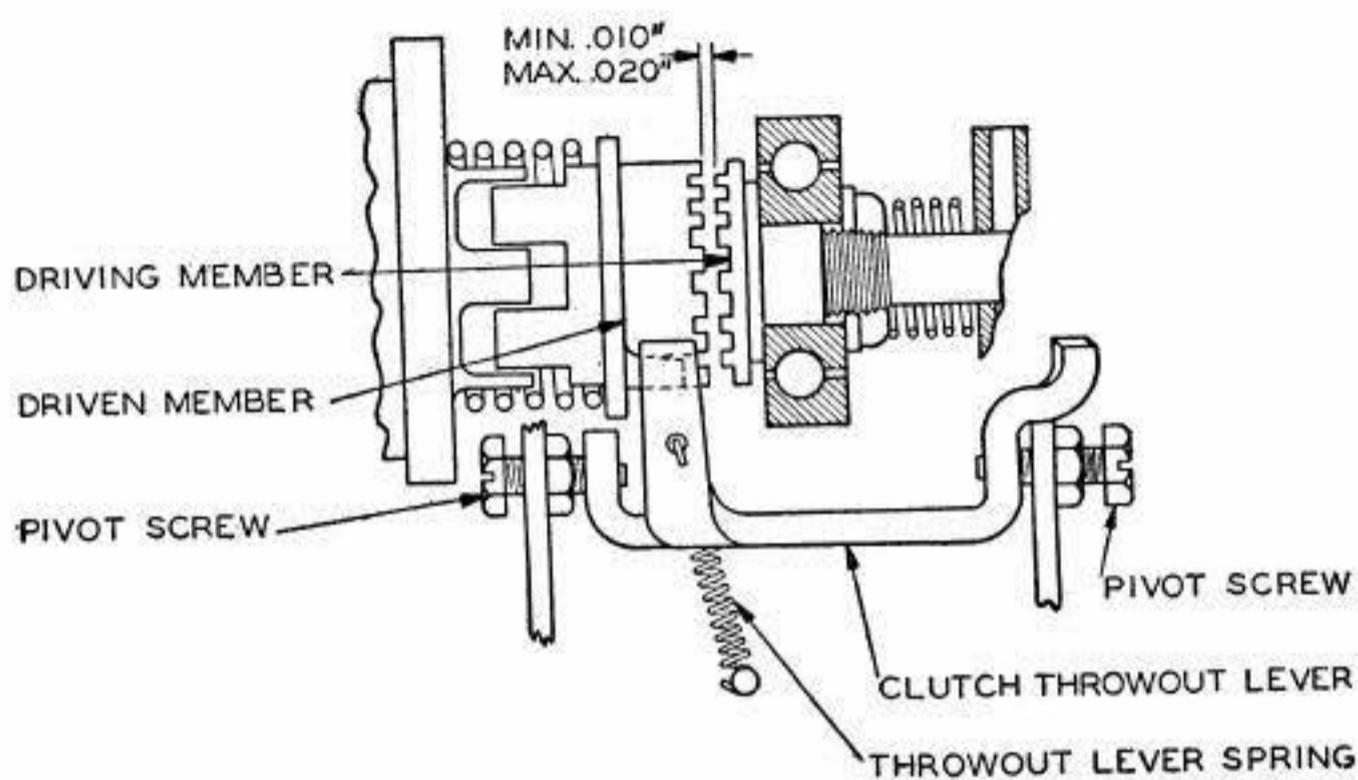

Fig. 2
2.04 The **main-shaft clutch teeth** should clear each other by Min .010", Max .020" when the clutch is fully cammed out of engagement. **Fig. 2**